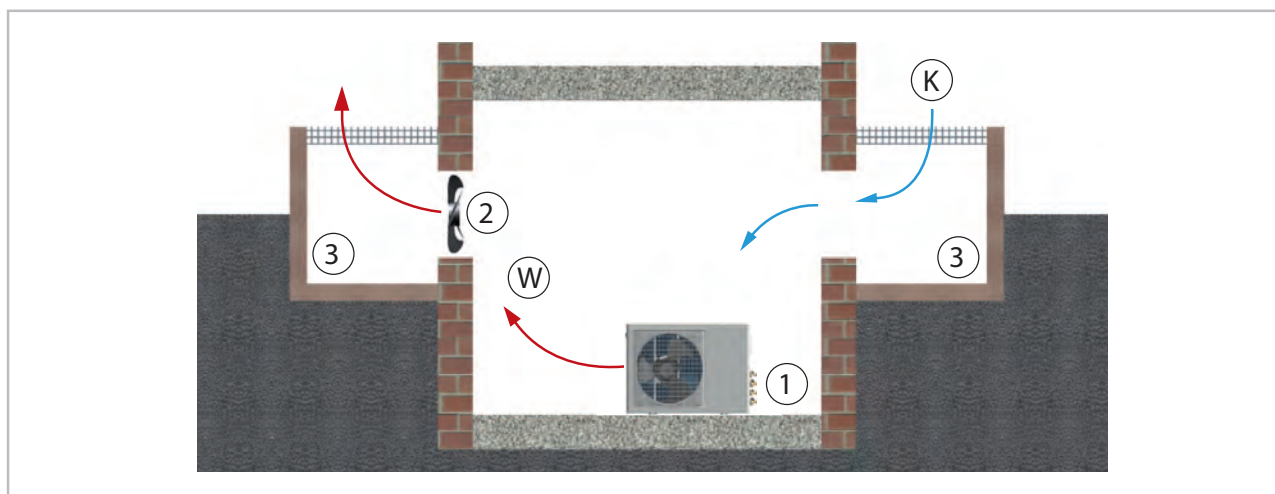

Fig. 23: Installation inside buildings
- Ensure that heat can dissipate adequately when placing the outdoor unit in cellars, lofts, adjoining rooms or halls (Fig. 23).
- Install an additional fan with a rated flow comparative to that of the outdoor unit being installed in the room and which can compensate any additional pressure loss in ventilation ducts (Fig. 23).